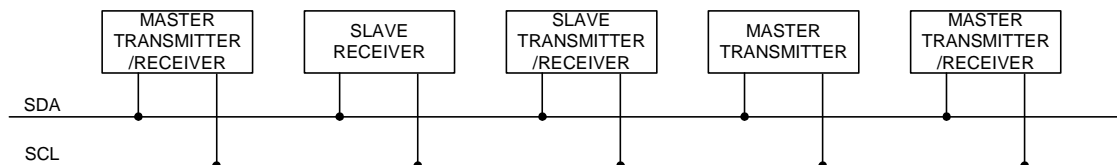
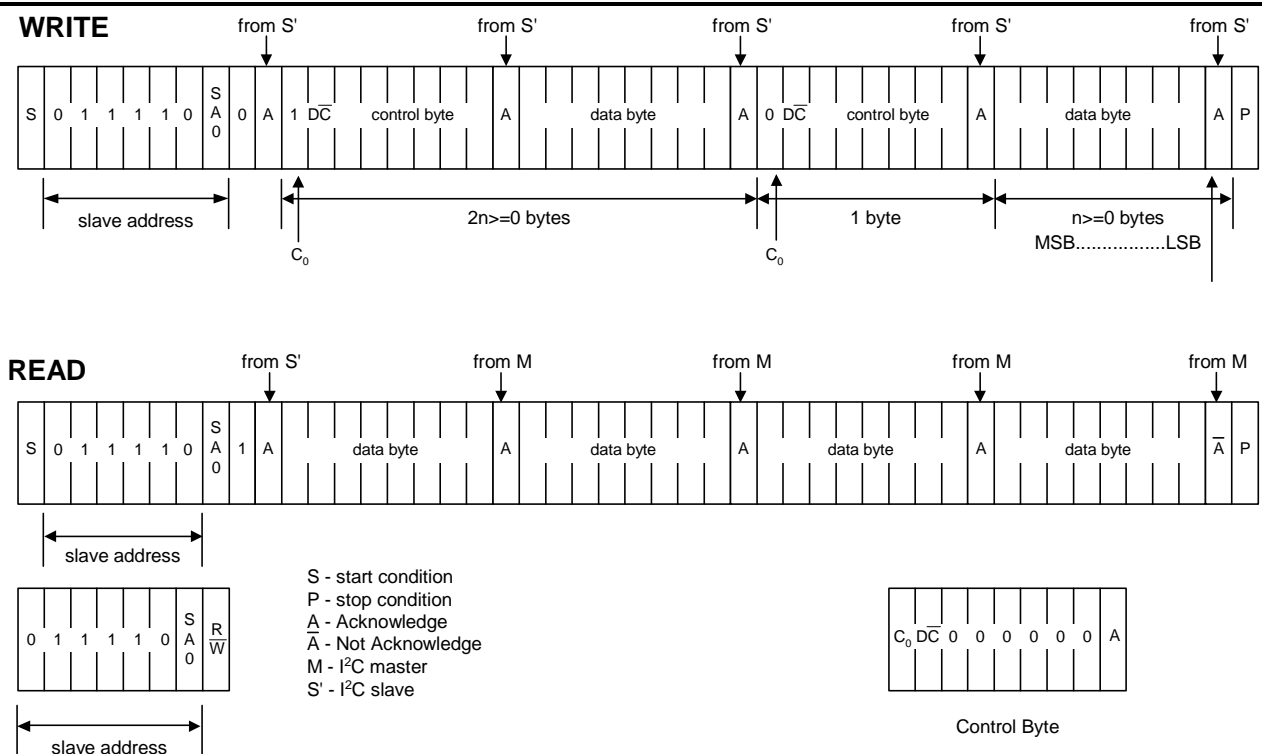

Figure 7 System configuration
Figure 9 I²C Protocol
The SH1107 supports both read and write access. The $\overline{R/\overline{W}}$ bit is part of the slave address. Before any data is transmitted on the I²C-bus, the device that should respond is addressed first. Two 7-bit slave addresses (0111100 and 0111101) are reserved for the SH1107. The least significant bit of the slave address is set by connecting the input SA0 to either logic 0 (VSS) or 1 (VDD). The I²C-bus protocol is illustrated in Fig.7. The sequence is initiated with a START condition (S) from the I²C-bus master that is followed by the slave address. All slaves with the corresponding address acknowledge in parallel, all the others will ignore the I²C-bus transfer. After acknowledgement, one or more command words follow which define the status of the addressed slaves. A command word consists of a control byte, which defines C_0 and $\overline{D/\overline{C}}$ (note1), plus a data byte (see Fig.9). The last control byte is tagged with a cleared most significant bit, the continuation bit C_0 . After a control byte with a cleared C_0 -bit, only data bytes will follow. The state of the $\overline{D/\overline{C}}$ -bit defines whether the data-byte is interpreted as a command or as RAM-data. The control and data bytes are also acknowledged by all addressed slaves on the bus. After the last control byte, depending on the $\overline{D/\overline{C}}$ bit setting, either a series of display data bytes or command data bytes may follow. If the $\overline{D/\overline{C}}$ bit was set to '1', these display bytes are stored in the display RAM at the address specified by the data pointer. The data pointer is automatically updated and the data is directed to the intended SH1107 device. If the $\overline{D/\overline{C}}$ bit of the last control byte was set to '0', these command bytes will be decoded and the setting of the device will be changed according to the received commands. The acknowledgement after each byte is made only by the addressed slave. At the end of the transmission the I²C-bus master issues a stop condition (P). If the $\overline{R/\overline{W}}$ bit is set to one in the slave-address, the chip will output data immediately after the slave-address according to the $\overline{D/\overline{C}}$ bit, which was sent during the last write access. If no acknowledge is generated by the master after a byte, the driver stops transferring data to the master.